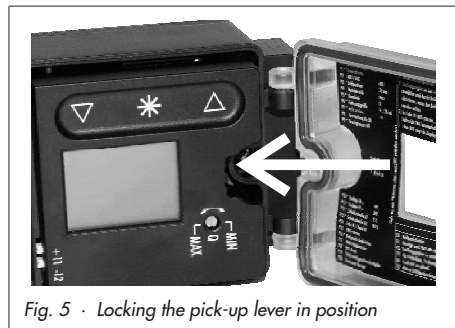

Fig. 5 · Locking the pick-up lever in position
5. Insert formed seal (15) into the groove of the positioner housing.
6. Place positioner on the actuator in such a manner that the follower pin (2) rests on top of the follower clamp (3). During which, press on the ribbed area shown in Fig. 5 to lock the pick-up lever in the top position.